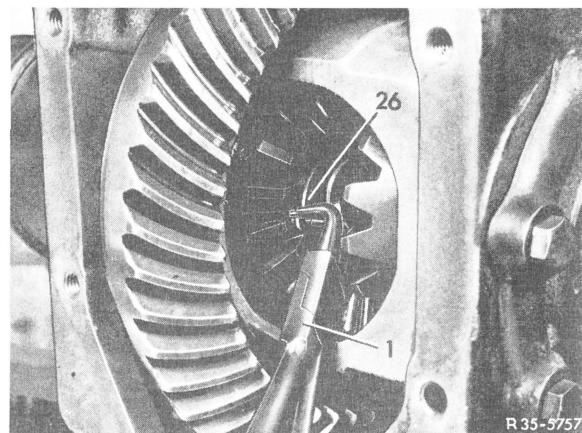

Fig. 3
- 4 Pull locking rings between inner synchronizing joints and side gears with pliers or a hook and remove from housing (Fig. 3).